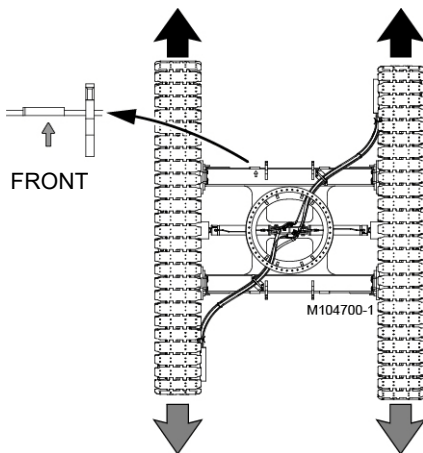

Figure 3-15. Travel Straight
- A red painted arrow (Figure 3-15) on the front of the carbody indicates the FRONT of the carbody.
- To TRAVEL STRAIGHT (Figure 3-15), move both of the crawler handles the same amount in the desired direction from the neutral position.